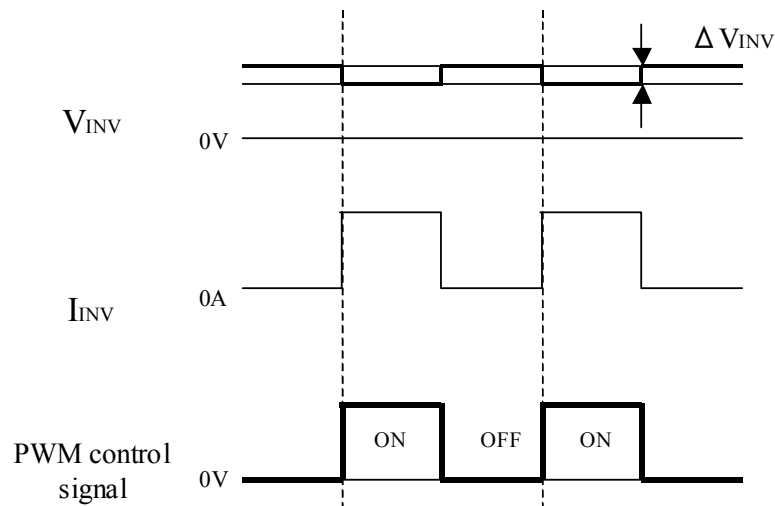

Fig.4 Brightness control voltage.
- c) Brightness control voltage is switched for “ON” and “OFF”, as shown in Fig.4. Voltage difference generated by this switching,  $\Delta V_{INV}$ , may affect a sound output, etc. when the power supply is shared between the inverter and its surrounding circuit. So, separate the power supply of the inverter circuit with the one of its surrounding circuit.